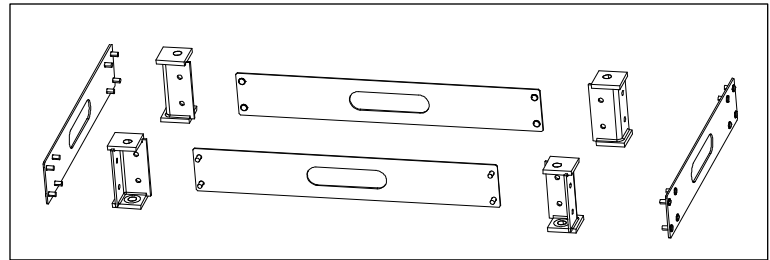

Figure 6
2. Disassemble the support assembly as shown in Figure 6.